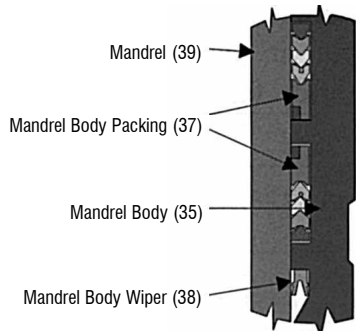

Figure 8-2: Mandrel Body Packing Set & Wiper
Referring to the Figure 8-2 demonstrates that the Mandrel Body (35) Packing Set comes in two major sections and when installed the brass rings face each other and contact the Mandrel seal surface when installed, as seen below.